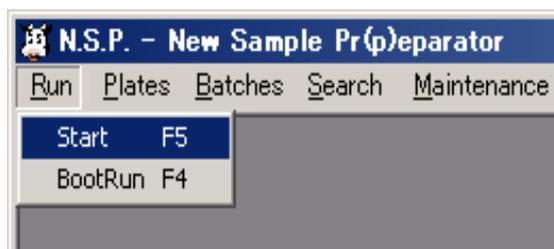

Fig. 8-1 : Run / Start
- (1) Click “Run” in the menu bar to open the ‘Run’ menu. (Fig. 8-1).
- (1) Select “Start” from “Run” (Fig. 8-1) in the main menu to open the “Plate selection” screen (Fig. 8.1-1)